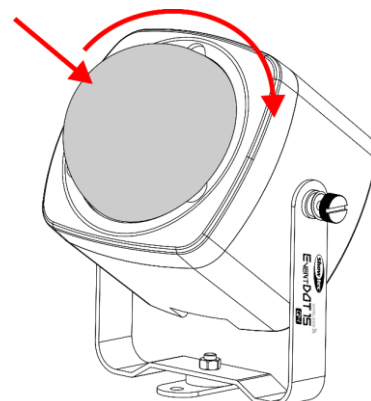

Fig. 16
- 02) Push and turn the diffuser clockwise to secure it in its place, as shown in Fig. 16.